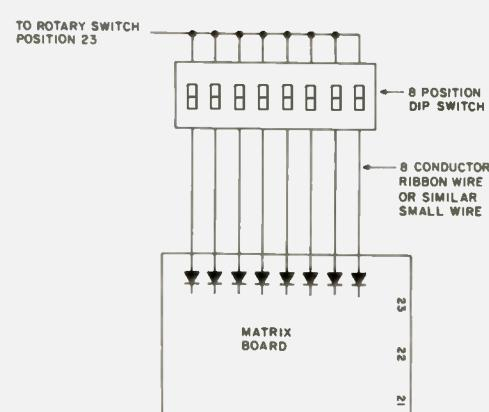

Fig. 2.
All one needs to do is simply (1) remove the 24-pin accessory plug from its holder, cover it with tape to prevent shorts, and push it inside the case, and (2) glue a section of perf-board on the accessory plug support bracket, mount your DIP switch on the perfboard, and wire as shown in Fig. 2. At this point, your 22-channel radio can be programmed for any of the frequencies